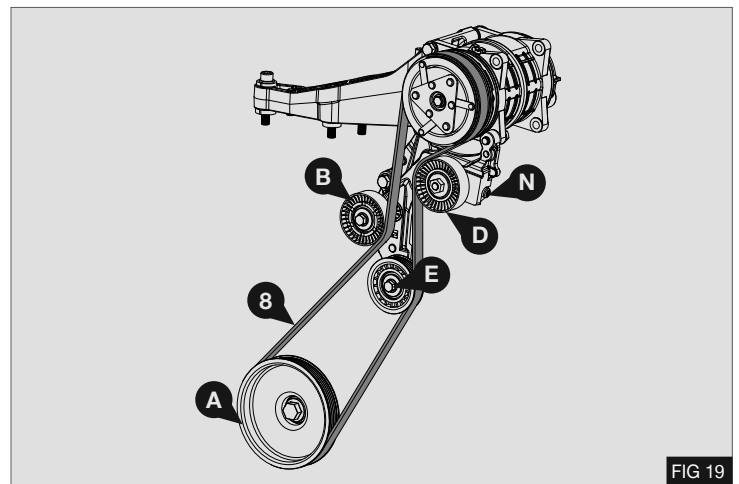

FIG 19
1. Install the supplied drive belt (8) as shown opposite - Fig 19